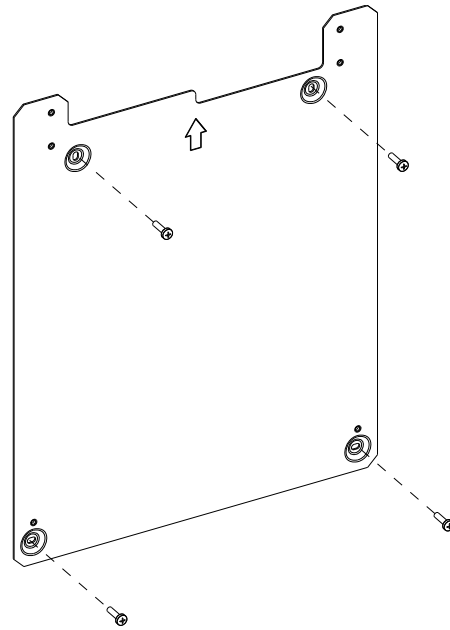

Fig. 1: Fixing the FC702/718/708 panel mounting plate
- Hold the mounting plate up to the wall and mark on the wall a position for the upper mounting hole. Make sure that the plate is the right way up. See the arrow pointing upwards on the mounting plate. Refer to Fig. 1.